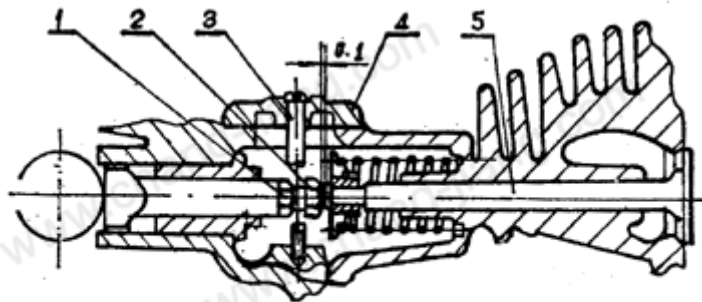

Fig.7 Mixture Valve Adjusting Schematic Diagram
4.2.3 Move the adjusting screw (Item 2 in Fig.7) with screw driver and check the opening, which should be 0.06mm for hot cylinder and 0.1mm for cold cylinder.
4.2.4 If opening does not meet the requirement, loosen nut (Item 1 in Fig.7) and readjust the opening.
- a. Open the valve chamber cover (Fig.7) remove rubber block (Fig.10) from observation hole in crankcase, apply kickstarter to operate the crank shaft. When inlet valve of left cylinder opens, apply gently kickstarter to make the "O" scale line on flywheel be in the center of observation hole.